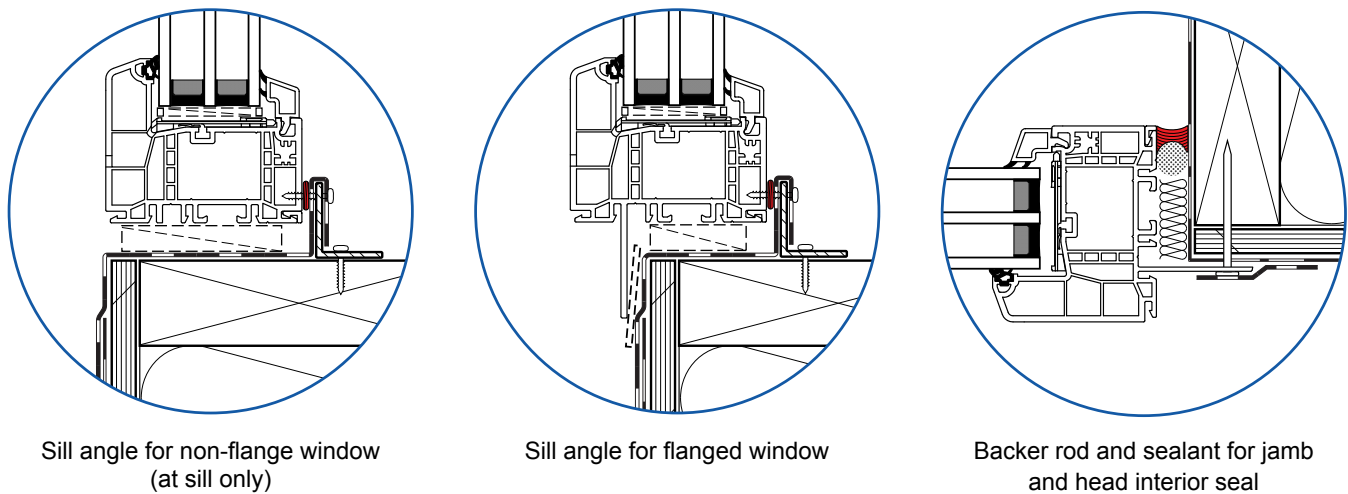

Figure 19 Window rough opening air and water sealing options
**Seals:** The baseline approach for sealing between the window frame and the rough opening at the sill is to use a metal angle or wood block, with the sill membrane wrapped over it so that the back of the window frame can be set into a sealant bead (see Figure 19). The sill angle provides increased moisture penetration resistance as it provides a back dam and elevates the location of the sealant used for the air and water seal above the surface of the sill membrane and away from potential moisture sources. Backer rod and a sealant bead are used at the jamb and head.
For any window detailing approach, the air and water seal should transfer between the window and the rough opening membrane at the **interior plane of the frame**, with drainage to the outside provided at the sill membrane. The same sealing approach is used for both flanged and non-flange windows. Sheathing tape at the outside perimeter of the flange is optional at the jamb and head for extra water-shedding protection, but a drainage path must always be maintained past the window sill flange through the use of shims or furring (see Figure 19).